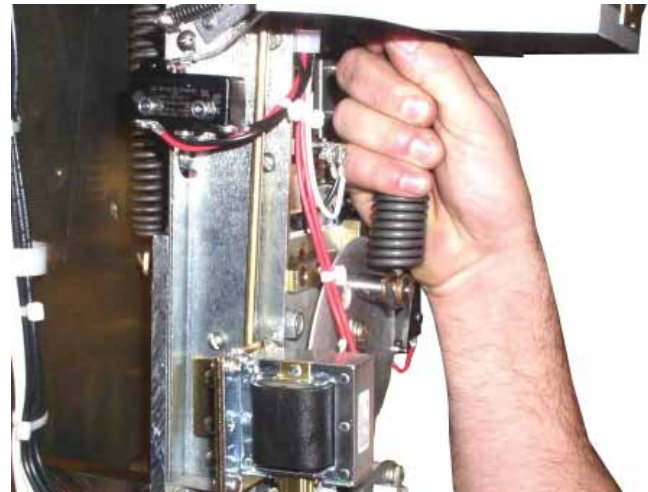

Figure 44.
- t. Lubricate the bronze bushing with general purpose grease. Pull the loose end of the closing spring onto the bronze bushing. Refer to Figure 44.